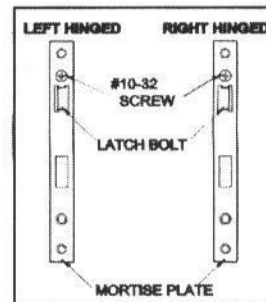

FIGURE 3
C. If the latch bolt orientation of the mortise plate and latch assembly matches your door go to **Step D**. If the latch bolt orientation is incorrect for your door, remove the two #10-32 flat head screws and mortise plate. Rotate the latch bolt 1/2 turn (180 degrees) and reattach mortise plate to latch assembly. **See Fig. 3.**